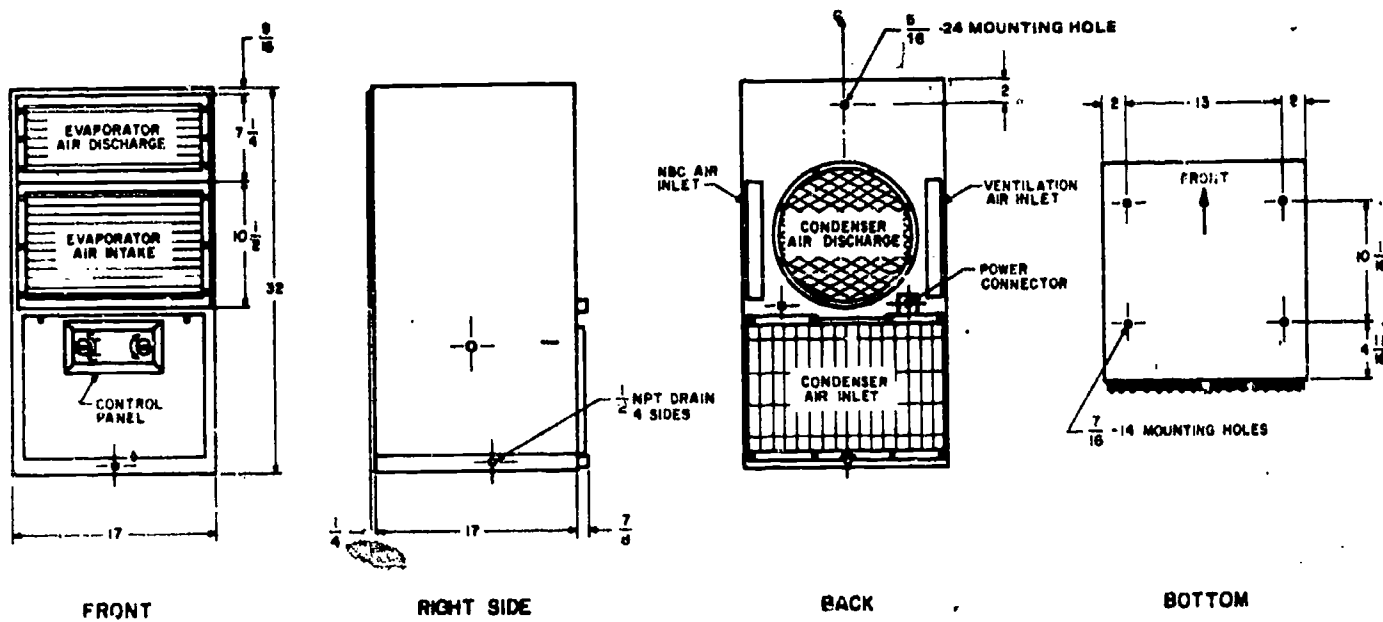
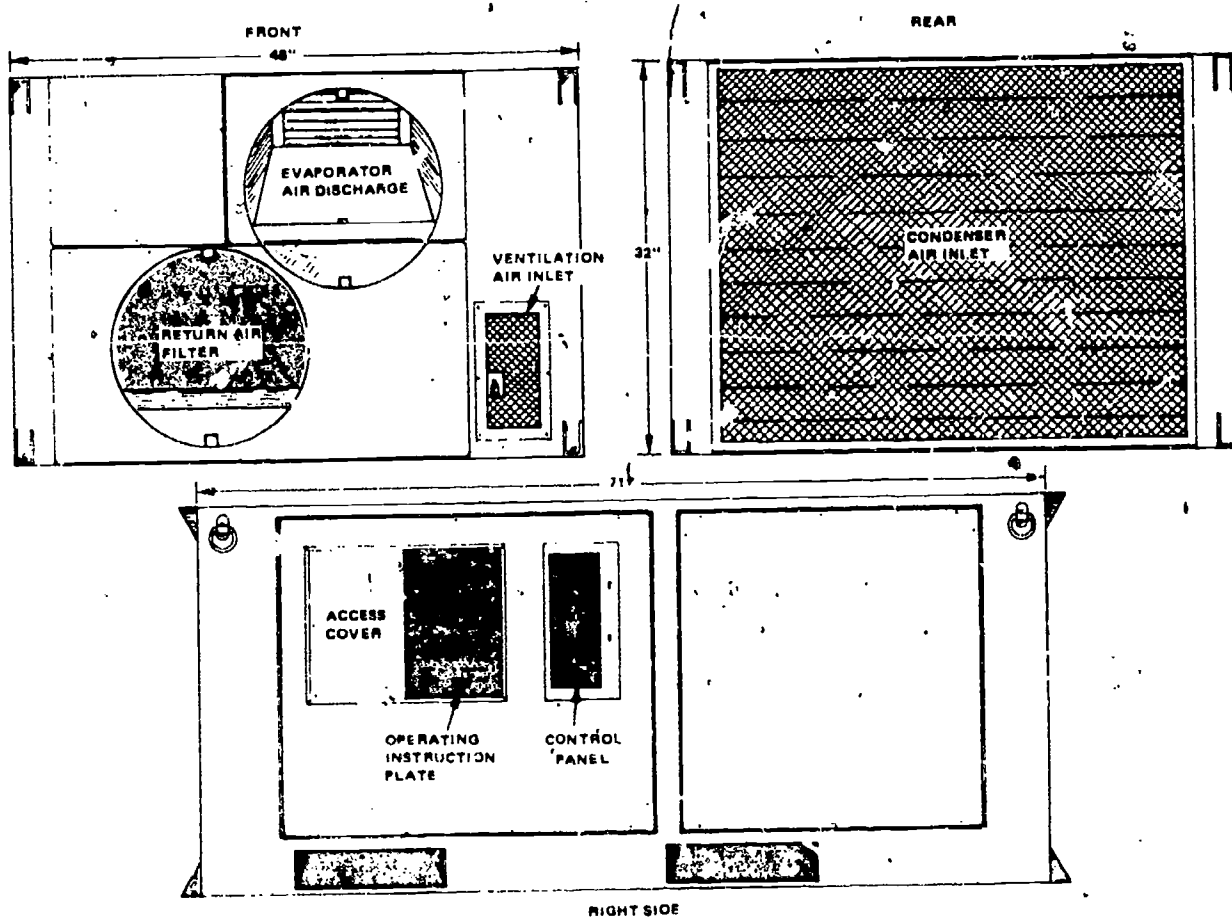

Fig 4-8. A/E 32C-29 air-conditioning unit.
Fig 4-9. A/E 32C-39 air-conditioning unit.
d. Model differences. The following figures and tables explain the design differences in the models. The units may have been made by one of three companies: Trane, Air Filter, or Keco. The major assemblies may have some minor differences but the description will remain the same. The performance characteristics and specifications will be the same no matter what company makes the unit. Table 4-1 gives you the operation and technical characteristics of the units. Tables 4-2, 4-3, 4-4, and 4-5 describe the major assemblies of the units. Figures 4-5, 4-6, and 4-7 show the various units. The major difference in the units is as follows: A/E-32C-117, A/E32C-24, A/E32C-26, A/E32C-29, and A/E32C-39 operate on 60 Hz current and the A/E32C-18, A/E32C-25, and A/E32C-27 operate on 400 Hz current. Figure 4-8 shows a line drawing of the A/E32C-29 air-conditioning unit with its dimensions. Figure 4-9 shows a line drawing, with dimensions, of the A/E32C-39. The major difference with this model is that it was designed so that the components are protected in a ruggedized frame and cabinet to allow shipping without crating.